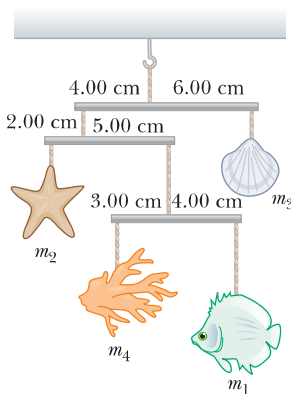

Figure P12.10
- 10.** A mobile is constructed of light rods, light strings, and beach souvenirs as shown in Figure P12.10. If $m_4 = 12.0$ g, find values for (a) m_1 , (b) m_2 , and (c) m_3 .